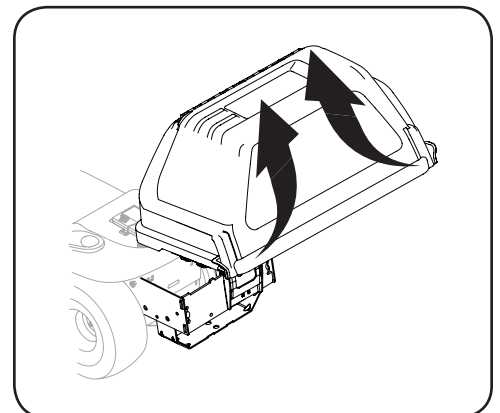

Figure 4-14
- Open the bagger cover by pushing in on the tabs and lifting the upper grass catcher cover. See Figure 4-14.